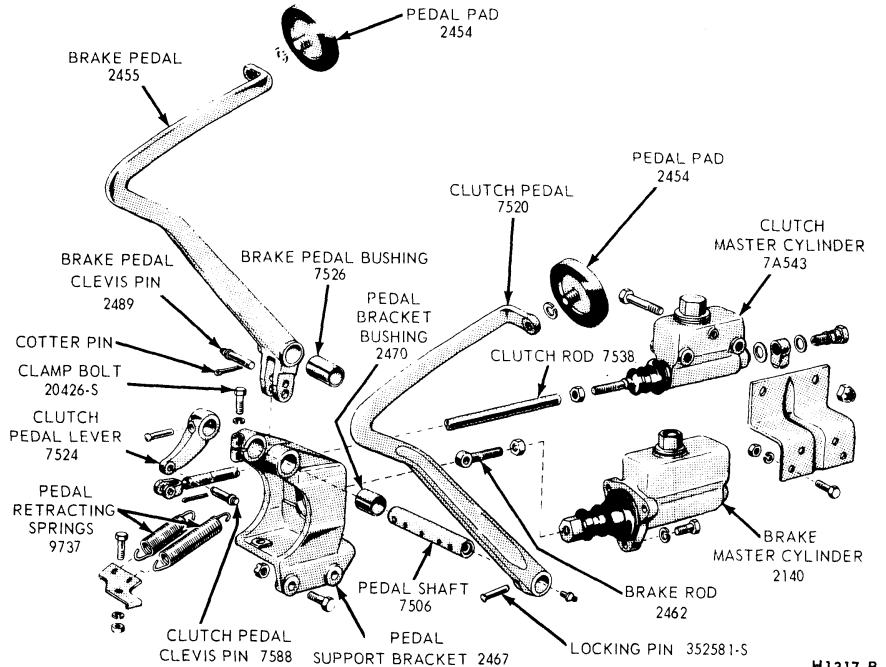

FIG. 10 Brake Pedal and Related Parts — P-500
- Remove the pedal pads from the clutch and brake pedal (Fig. 10).